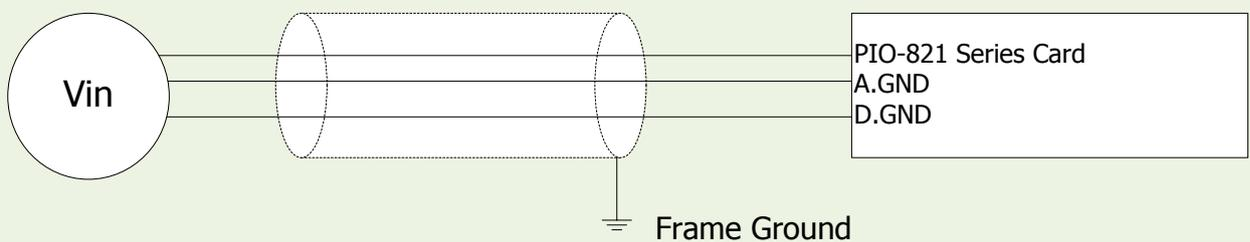

Figure 2-11
| 5. Current source input signal | → see Figure 2-11 |
■ **Figure 2-11: Connecting to a 4 ~ 20 mA Source**
Signal shielding connections in Figure 2-7 to Figure 2-11 are all the same, as show in the below figure. Use a single-point connection to **frame ground (not A.GND or D.GND)**